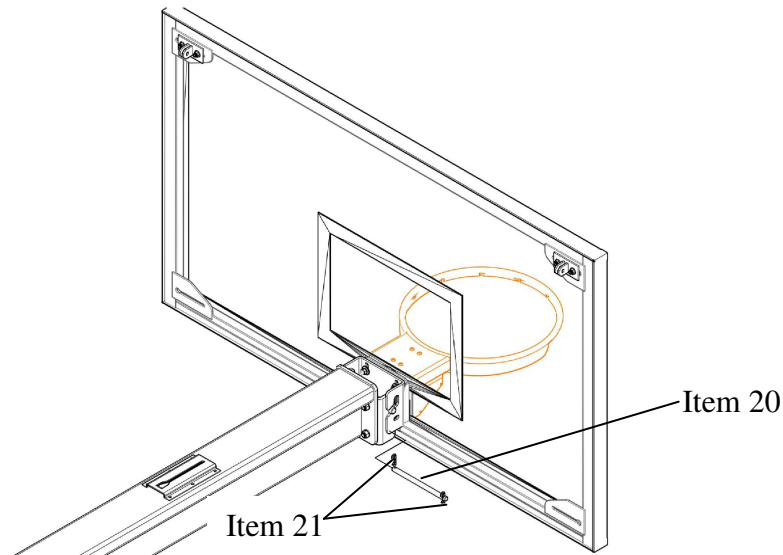

Figure 4
8. Position the backboard with the slots of the Quick Change bracket onto the pins of the bracket on the main boom as shown in figure 4. Slide the board assembly completely onto the pins and insert the Quick Change Locking Rod (item 20) through the slots and holes in the board and boom brackets. Secure the locking rod with the Retaining clips (item 21).